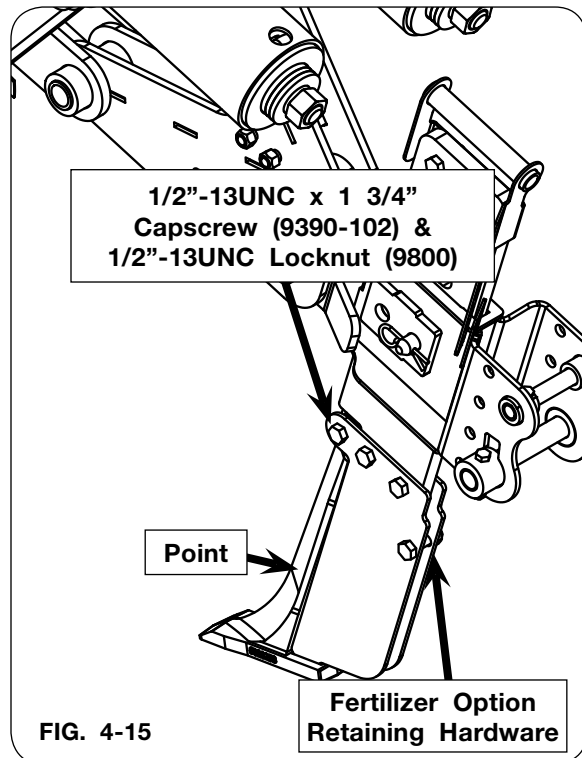

FIG. 4-15
2. If applicable, remove and save the fertilizer option 1/2"-13UNC x 1 3/4" capscrew (9390-102) and 1/2"-13UNC locknut (9800). (FIG. 4-15)
3. Loosen the center wear plates 1/2"-13UNC x 1 3/4" capscrews (9390-102) and 1/2"-13UNC locknuts (9800). (FIG. 4-15)
4. Remove and save the 1/2"-13UNC x 1 3/4" capscrew (9390-102) and 1/2"-13UNC locknut (9800). (FIG. 4-15)
5. Remove the point (601983B). (FIG. 4-15)